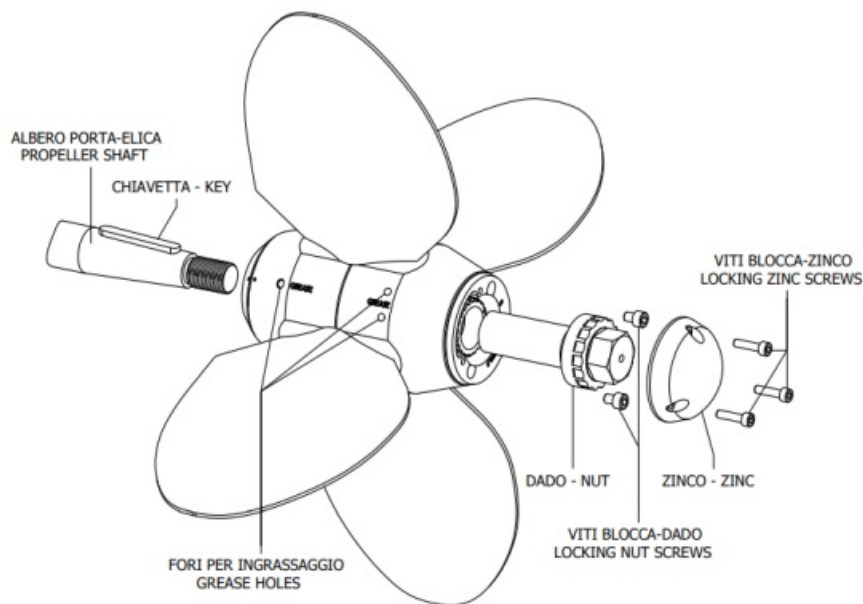

fig. 2
- Insert the already assembled propeller onto the propeller shaft (refer to fig. 2).